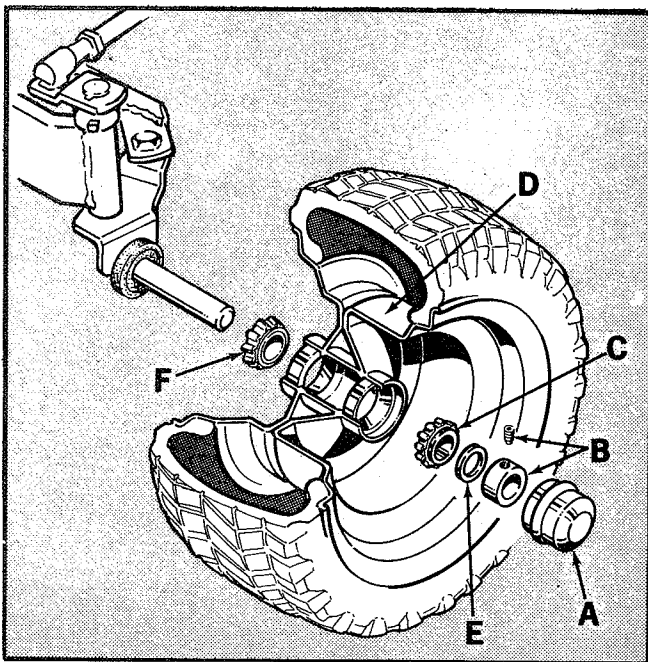

Figure 30. Left front spindle and axle assembly.
2. See figure 30. Remove the grease cup (A) by prying off with a screw driver.
3. Use an Allen wrench to loosen the set collar (B).
4. Remove the set collar (B), washer (E), outer bearing (C), wheel (D), and inner bearing (F). It is best to keep the two bearings separate so you can put them back in their original place. Wash the bearing shaft, bearings, and wheel housing with a solvent such as kerosene and wipe dry. Inspect the
6. See figure 30. Replace the inner bearing and slide the wheel on the axle.